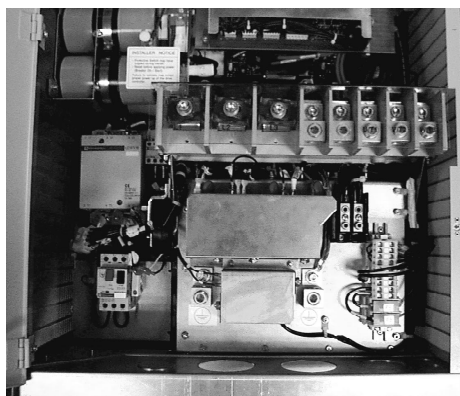

Figure 4.2.16: Power Terminal Block
4. Remove the three hex screws attaching the internal T1, T2, and T3 cables to the power terminal block. (See Figure 4.2.16).